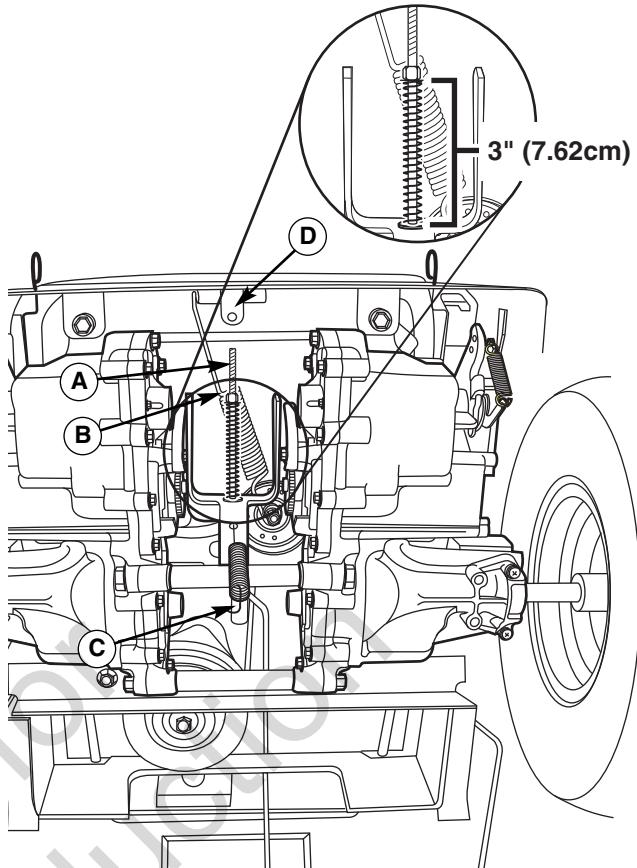

Figure 34. Brake Adjustment
4. Locate the brake rod (A, Figure 34) and adjustment nut (B).
5. Measure the parking brake spring. Its compressed length, with the parking brake lever in the ENGAGE position, should be 3-1/2" (8.89 cm). Adjust the spring length by turning the adjustment nut (B), if necessary.